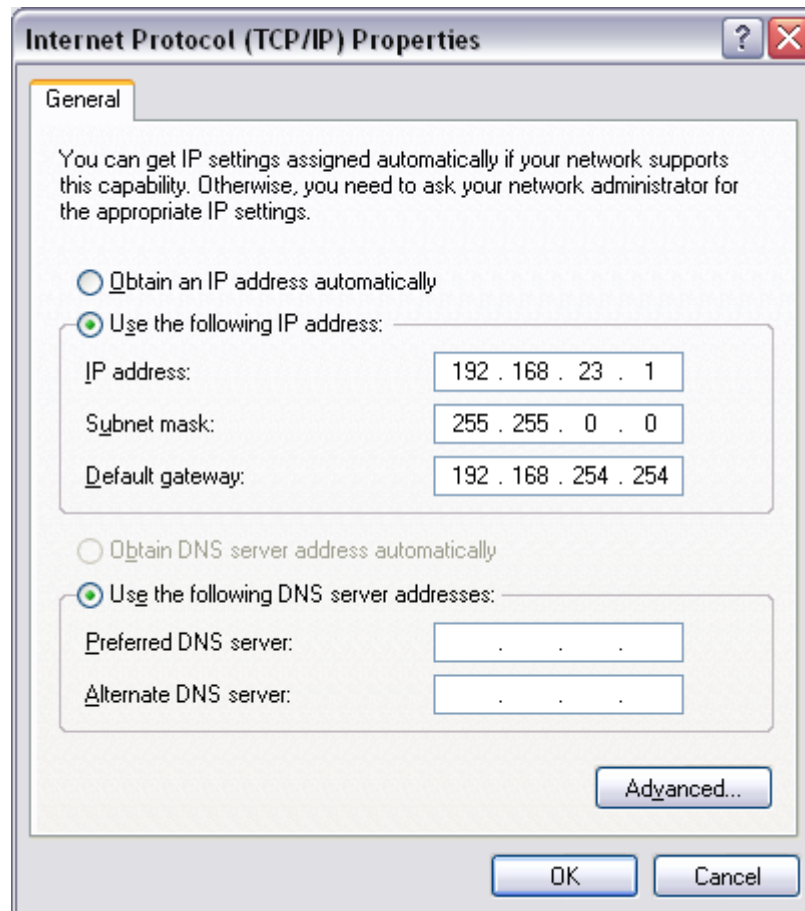

Figure 57: MS Windows XP screen to set the computer network address.
Select "Use the following IP address" and set your computer to the network coordinates shown on Figure 57. It is only when the "OK" button is pressed on this screen (and the following window is closed, if required, without clicking on "Cancel"), that the new network coordinates are applied to the computer.
- **WARNING:** Once the configuration of all *KC600* is completed, do not forget to reset the computer network address so that it is attributed automatically in a computers network, by checking the box "*Obtain an IP Address Automatically*" (refer to *Figure 57*) on the *MS Windows* screen to set the "*Internet Protocol (TCP/IP) Properties*".